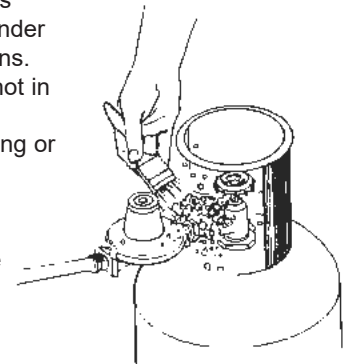

Figure 6: Soap Test for Leaks
- Cylinder valves in use must be fully opened and check for leaks with soapy water (Figure 6) or a leak detector. Sometimes you may notice a gas odour or frost appearing on a fitting, but these signs are not always reliable. If a leak is detected, shut off the cylinder valve and make corrections. Fully close valves when not in use.